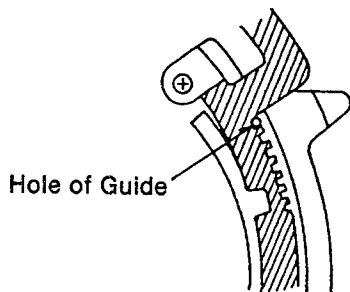

Fig. M9
- (3). The 1st tooth on the T-Rack Guide face to the hole of Guide as shown in Fig.M9.